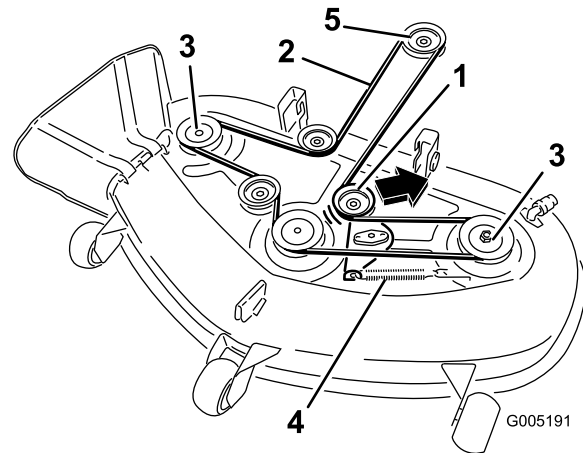

Figure 47
5. Pull the idler pulley in the direction shown in Figure 47 and roll the belt off of the pulleys.
6. Route the new belt around the engine pulley and mower pulleys (Figure 47).
7. Pull the idler pulley in the direction shown in Figure 47 and route the belt onto the idler pulley (Figure 47).